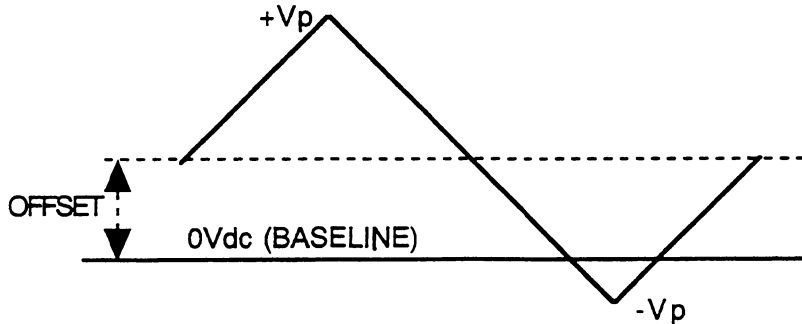

Figure 3-9. Offset Waveform Example
5. Set up the Offset. Use the **OFFSET** key (7) to display the dc offset level. Offset is the waveform reference level relative to 0Vdc; see figure 3-9. Use the keypad (39) or the